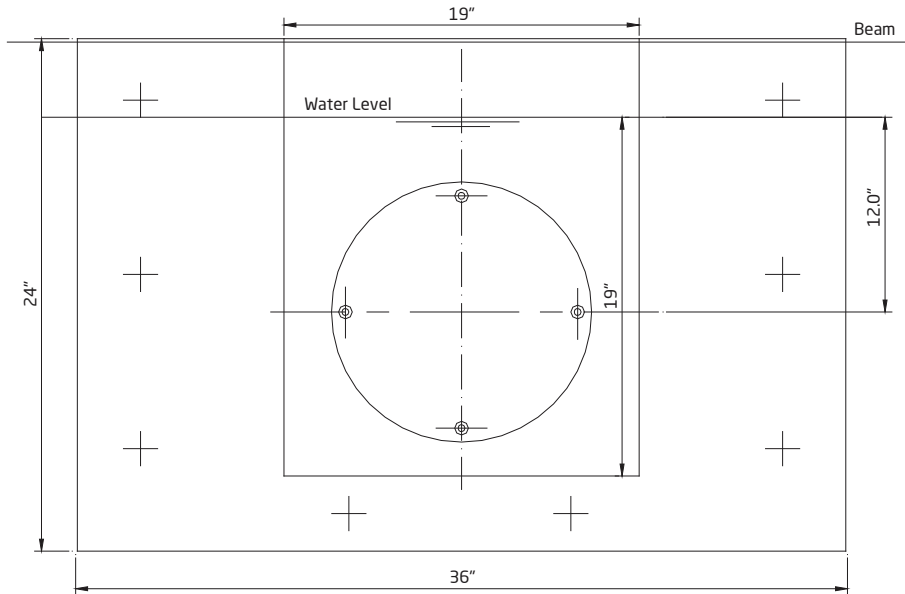

Figure 9
- One (1) piece of plywood 2' x 3' x 1/4"
- Eight (8) Lag screws 1/4" x 1-1/2" (minimum)
- Eight (8) Plastic lag shield anchors
4. Taking the 2' x 3' x 1/4" plywood, set its top edge even to the cap of the pool wall. In some cases a larger piece of plywood maybe needed to cover the hole completely. If plywood covers the hole completely, mark the water line on the plywood. From this line, layout and drill holes in plywood for the four (4) M8 x 80 gunite cover studs (part# 31) and the eight (8) 1/4" lag screws. (*See Figure 9*)
5. Insert the four (4) M8 x 80 gunite cover studs (part# 31) in the jet housing; one on each end of the vertical center line and one on each side on the horizontal center line insert gasket with knobs (part# 26). Place gunite cover on studs covering the inside of the jet housing. Next place plywood on the studs and secure to the jet housing with four (4) M8 stud washers (part# 32) and four (4) M8 gunite cover stud nuts (part# 33). The discharge connection should be located directly **ABOVE** the suction connection.
6. Now place this assembly into position in the pool wall and align the water line marks. With a level on the two (2) horizontal studs, level the assembly and mark the eight (8) holes for the 1/4" lag shield anchors. Remove assembly and drill holes for lag anchors. Install lag shield anchors. Reposition the assembly and secure it to the lag shield anchors with 1/4" lag screws. It is best to check with a level before tightening the lags down. Back fill and form the outside of pool wall.